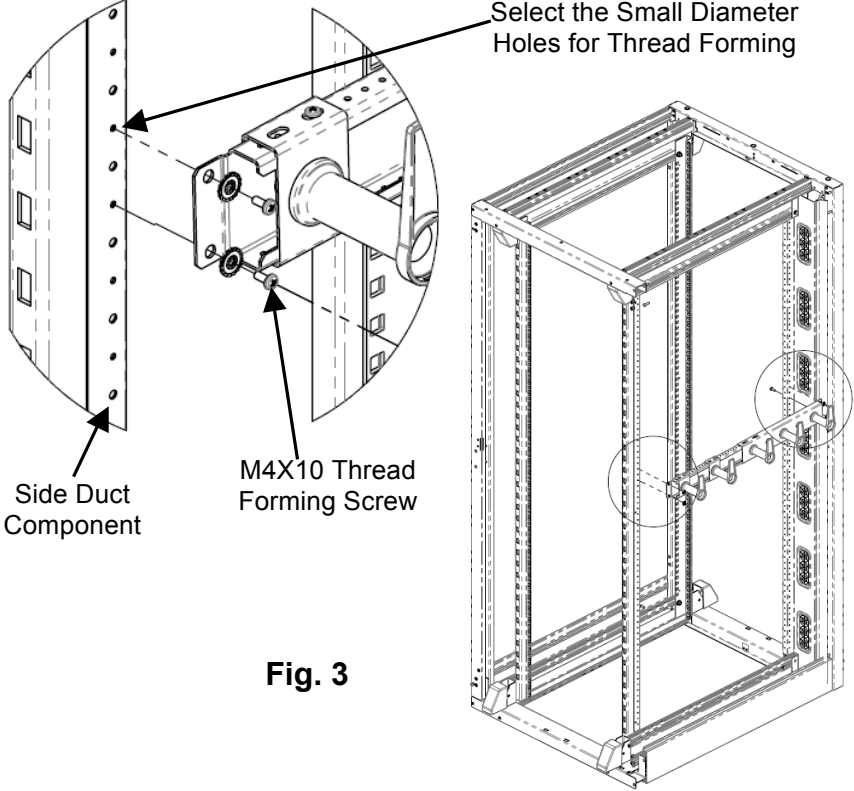

Fig. 3
2. Use four M4X 10 thread forming screw and M4 Washer to mount the spool manager on the side duct piece at small diameter locations.(Fig.3)